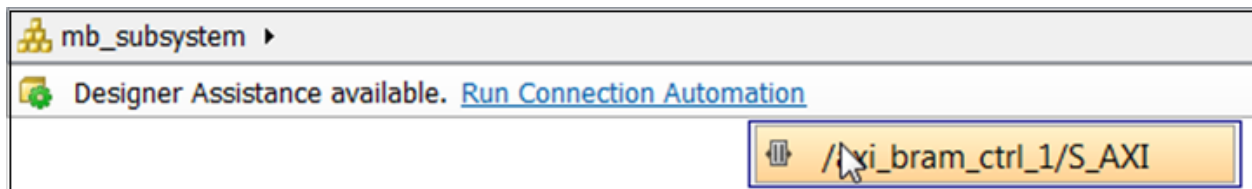

Figure 120: axi_bram_ctrl_1/S_AXI
13. Select **/axi_bram_ctrl_1/S_AXI** (Figure 120).